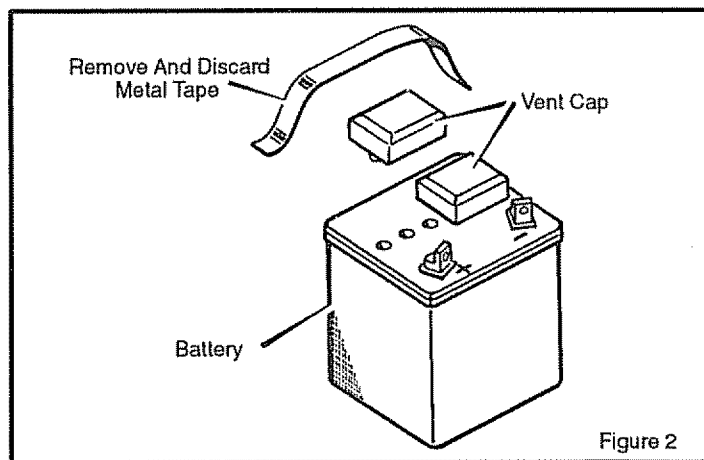

Figure 2
2. If metal tape covers the vents, remove the metal tape from the vents (Figure 2). Discard the metal tape.